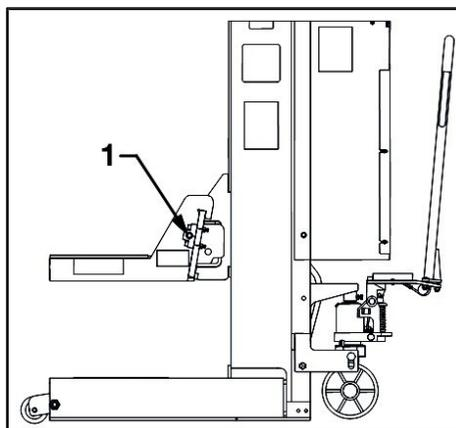

Fig. 4: CML series side view - wide model only
2. Use the lift system only on level, even surfaces. A level surface is considered to be 3° slope or less. A surface with 3° slope is equivalent to a 5% grade or 5/8 in. (15.9 mm) rise or drop per horizontal foot (304.8 mm) (See Fig. 4 below. Note also that for each degree of slope a surface rises or drops 0.210 in. (5.33 mm) per horizontal foot (304.8 mm)). The surface must also be free of ripples, ridges, depressions, holes, or any undulation (e.g., a seam in a concrete floor) that would cause only part of the lift unit's footprint to be in contact with the floor.